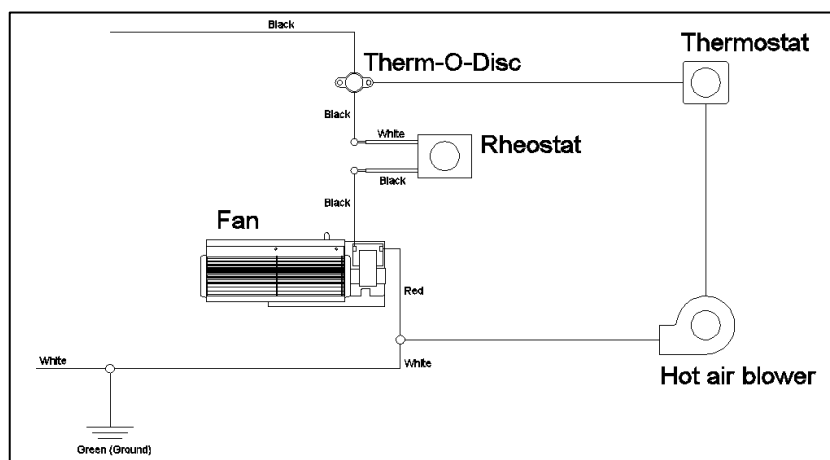

Figure 4-2: Electrical Diagram for Parallel Connection of Hot Air Kit and Blower Kit
8. Make the electrical connections (Figures 4-2 and 4-3). Note that the power supply to the blower is 115V.